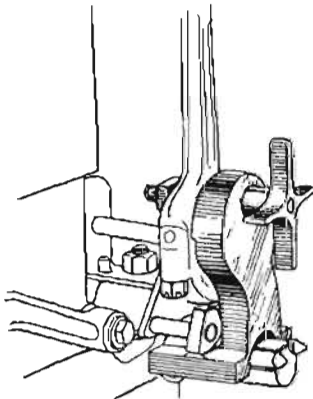

Fig. 13
- K. V-8 Fords have full floating rod bearings and, after long use, the steel rod becomes worn inside to such an extent that it is impossible to get a true test from the inside of the rod. The large ends of these rods have the sides ground parallel with the bore, therefore these are the proper points from which to check these rods. To insert a worn V-8 rod in the Side Clamping Fixture -- hold the rod in a vertical position and slip its large end over the spring clamping device so that the side of the rod is against the side wall of the fixture, then tighten the clamp. Place fixture with the rod in it on universal mandrel as shown in Fig. 13. Fixture is useful for any make of rod that is narrow and that has no bearing metal flange.